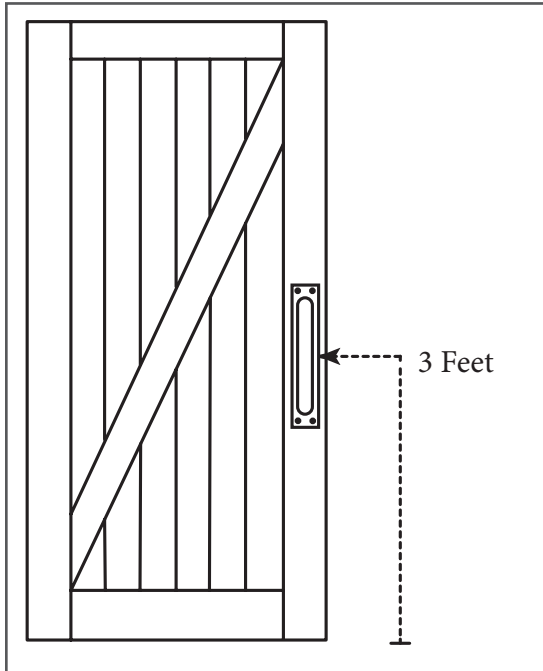

Figure 1
1. Using a measuring tape and pencil, mark the desired location for the door pull. The normal height for a pull is 36" from the bottom of the door (Figure 1).